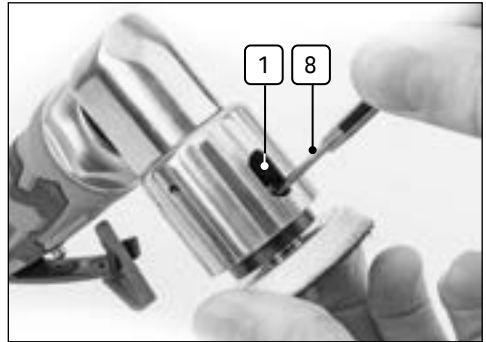

Fig. 4
6.3 Attaching/Removing the Backing Pad (Fig.4)